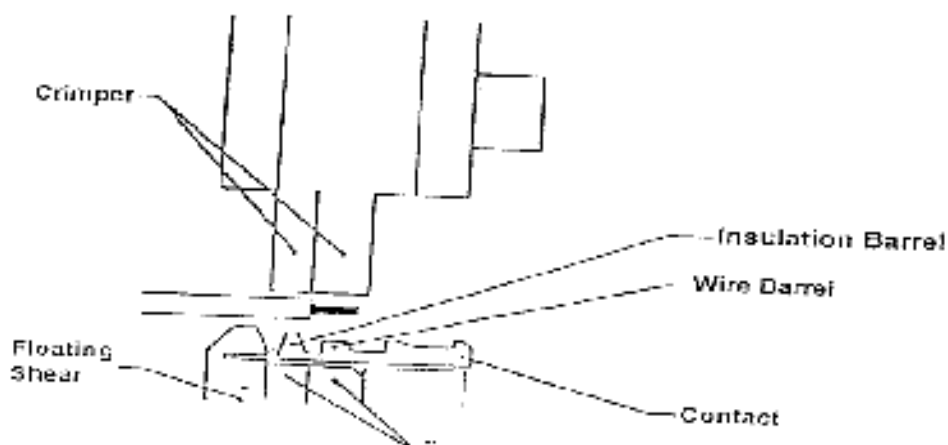

Figure 3
- (2) Feed terminals one at a time (cut to proper length) into the crimping area of hand-tool through terminal guide (see Figure 3) by hand.
- (3) Insert stripped wire into wire barrel of terminal as (shown in Figure 3). Straighten wire before placing in hand-tool.
- (4) Close handles with wire held in crimping area until ratchet releases. This hand-tool is provided with a ratchet mechanism on its handles in order to obtain an appropriate crimp condition. Close the handle fully to reach the proper crimp condition.
- (5) Remove terminal after crimping.
- (6) Lightly oil every third to fourth wire and insulation terminal barrels using terminal lubrication (IE Stoner E805).